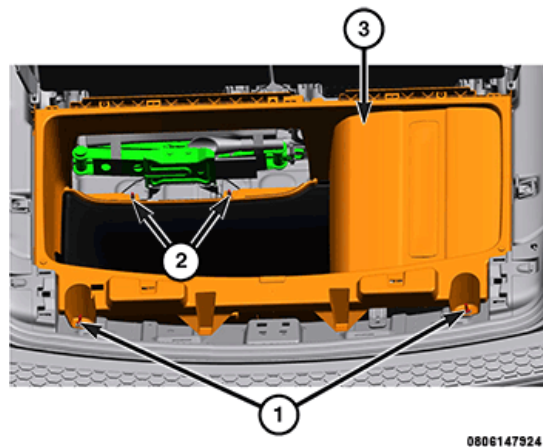

Figure 23 – Load Floor Bin Nuts
39. Remove the rear nuts (1) from the load floor bin (3) (Figure 23).
40. Remove the load floor bin (3) from the vehicle (Figure 23).
96. Install the load floor bin (3) to the vehicle (Figure 23).
97. Install the rear nuts (1) to the load floor bin (3) (Figure 23).